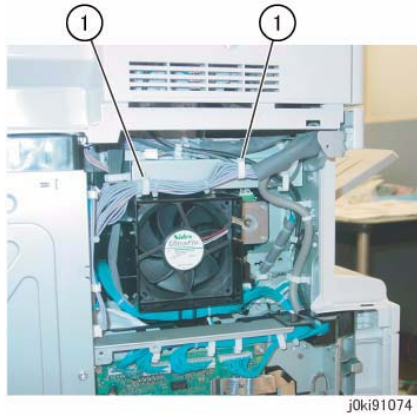

Figure 1 Release the Wire Harness
6. Release the wire harness from the clamp. (Figure 1)